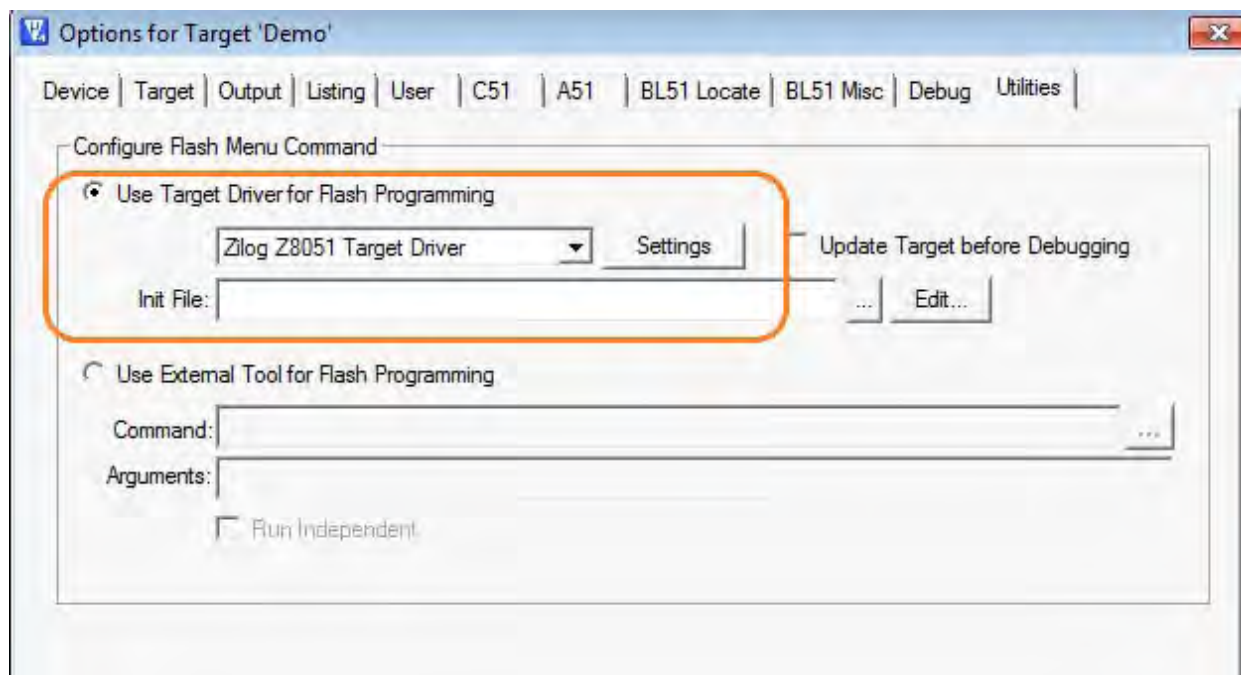

Figure 37. Selecting A Target Driver For Flash Programming
1. From the **Project** menu, open the **Options for Target 'your project'**, and click the **Utilities** tab. In the **Use Target Driver for Flash Programming** drop-down menu within the Configure Flash Menu Command pane, ensure that **Zilog Z8051 Target Driver** is selected, as indicated in Figure 37.